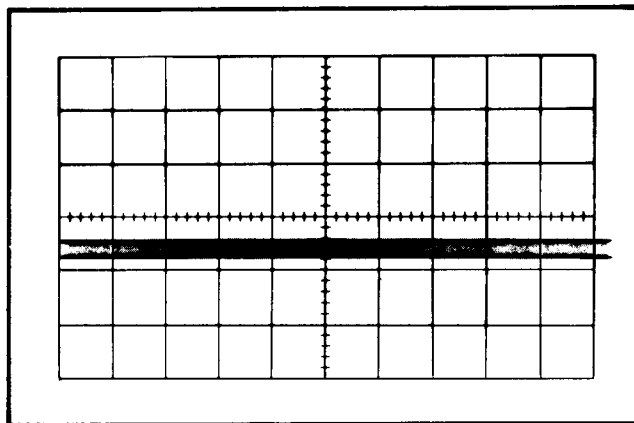

Fig. 5-10. Typical CRT display when checking common-mode rejection ratio.
e. CHECK—CRT display for 0.8 division deflection, or less (common-mode rejection ratio 10:1 or better; see Fig. 5-10).